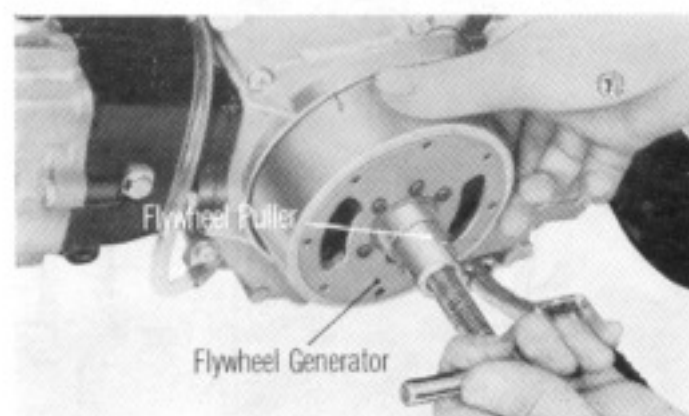

Fig. 13
- Remove the flywheel using the flywheel puller (Tool No. 07011-09801) and then remove the stator assembly (Fig. 13).